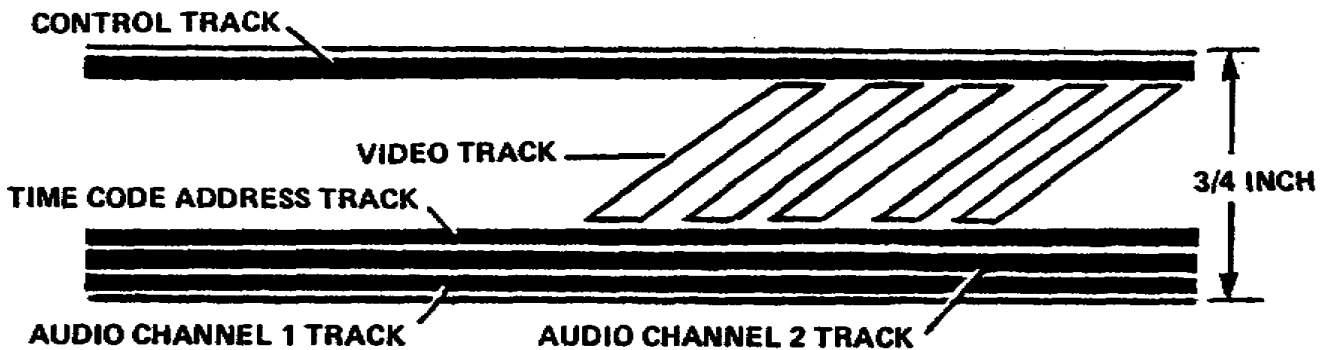

Figure 1-4. Track arrangement of 3/4-inch videotape system
(1) The CART system is a large representation of the old audio 8-track system which had a short life, due to the mechanical problems in the CART machines. CART systems were designed for 2-inch machines and also for the short-lived 1/2-inch system (1/2-inch home units).
(2) At the present there are two cassette systems used in the broadcast industry, 3/4-inch UV and 1/2-inch beta systems. The 3/4-inch UV is now a broadcast industry standard and is replacing the 2-inch reel tape machines. The 3/4-inch still does not have the quality of the 2-inch but it has enough to be broadcast standard tape, and be usable in the field for ENG/EFP. Even though 3/4-inch tape has become a standard with ENG/EFP, 1/2-inch beta has started a new revolution of the single camera recorder system, called camcorders. The camcorder system brings a positive light to ENG/EFP because of less equipment needed and the ability to broadcast quality recordings.
e. The system standard we are going to use is the 3/4-inch, which was later called the U-Matic system. The U-Matic system is the single standard for all of the more popular 3/4-inch VRs. Sometimes the system is simply called the "U-system." Cassettes recorded on the U-Matic VRs are all interchangeable. Besides the video track, the cassettes have two audio channels, one address code track (which can be used as a third audio channel), and a control track (fig 1-4).